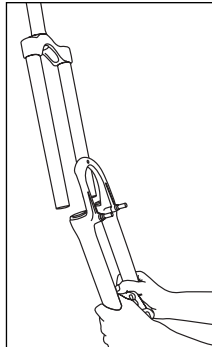

Fig. 9
- Slide off one-piece lower tube assembly (see Fig. 9).